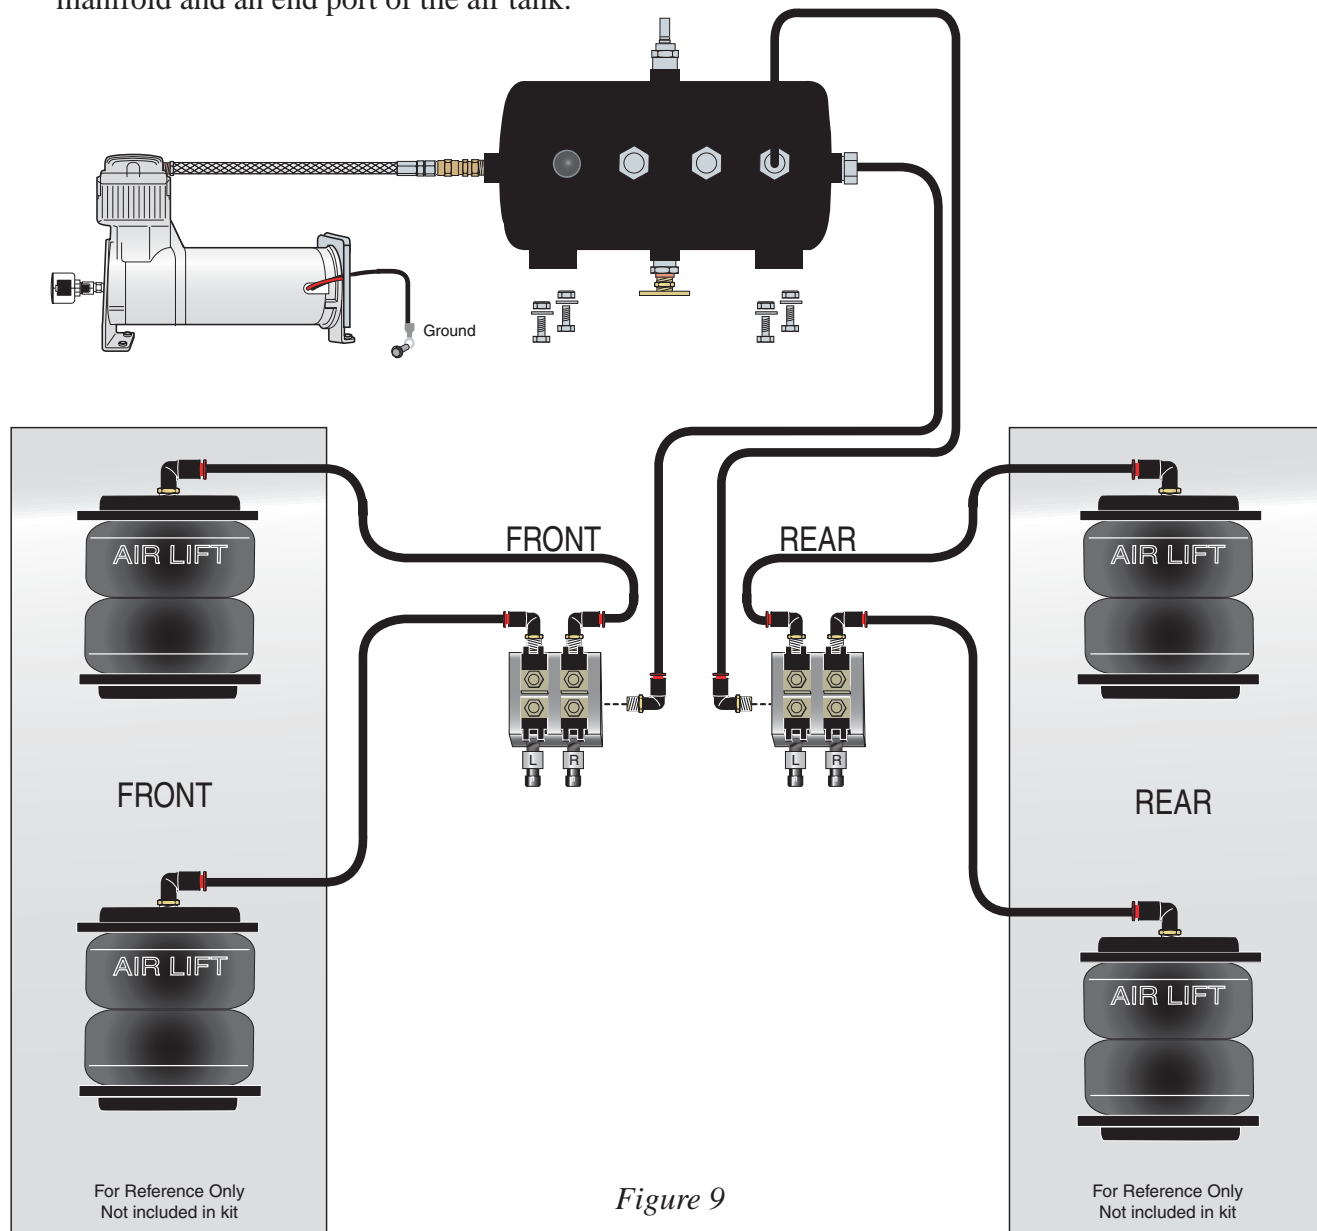

Figure 9
1. Insert three 3/8" x 1/2" air fittings into the ports of the manifolds. There are two ports on one side and one port on the other (Figure 9).
2. Using a standard tube cutter, a razor blade, or a very sharp knife, squarely cut two pieces of 1/2" air line to go between each of the front air springs and the two ports of the manifold (Figure 9).
6. Attach the fitting at the end of the braided leader hose on the compressor to the end port of the air tank (Figure 9).